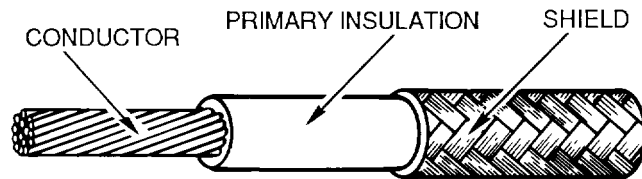

Figure 5. Single Conductor Cable Construction
32. **DEFINITION.** These cables have one single insulated conductor with a metallic covering, shield, outer conductor, and a jacket or outer covering. These single conductor cables have varied uses and applications. Applicable specifications must be adhered to during repair and replacement, for individual applications and repair (WP 015 00). Each WP will refer to applicable military specifications. The basic construction of a single conductor cable is shown (Figure 5).
33. **ELEMENTS.** There are three basic elements in the single conductor cable that when combined together during manufacture constitute a single conductor cable (Figure 5).
36. **Jacket.** The single conductor shield cable will typically have a jacket similar to that shown in Figure 5. The jacket will be an insulating material, probably the same as the primary insulation shown in Figure 5.